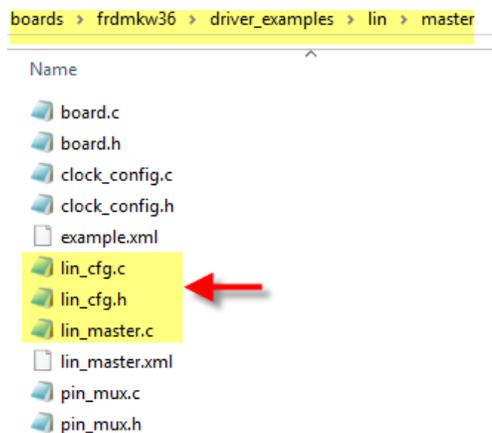

Figure 18. LIN master application files location
1. Locate and copy the “lin_master.c”, “lin_config.c” and “lin_config.h” files stored in boards>frdmkw36>driver_examples>lin>master from the unzipped FRDM-KW36 SDK *Figure 18*.